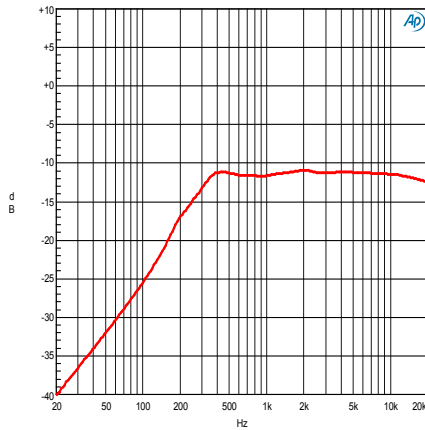
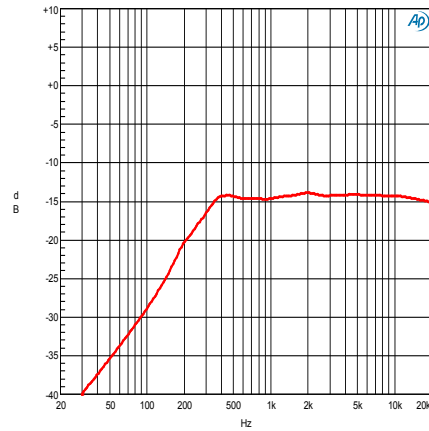

Fig 7 HPF transfer function (100 W tap).
Fig 8 HPF transfer function (50 W tap).
14. Series capacitors in primary circuit, see Fig 7 and Fig 8 for details.